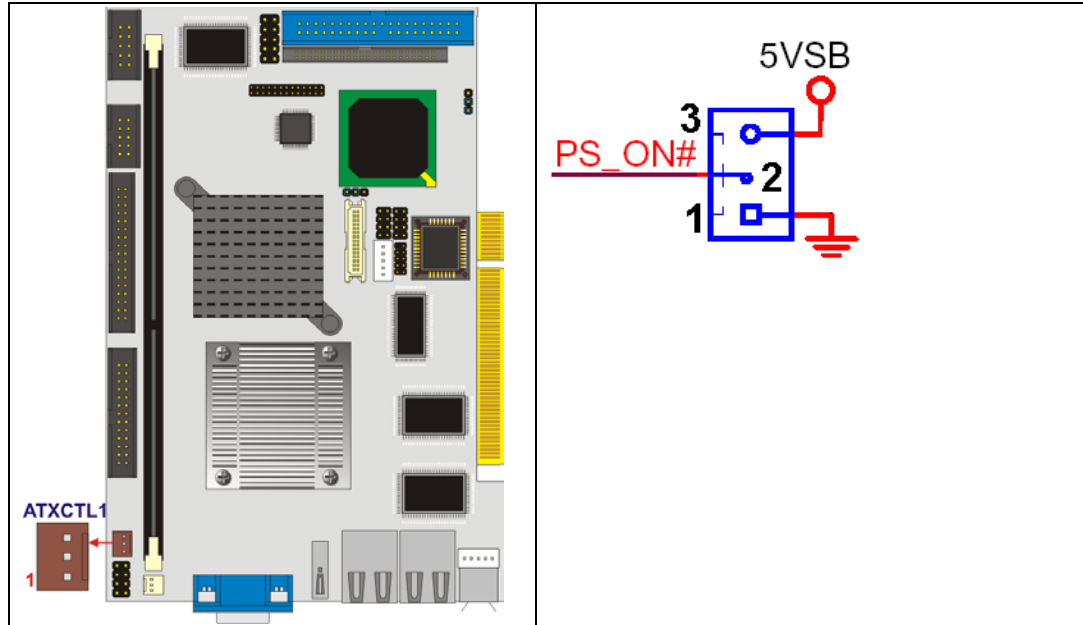

Figure 3-4: Backplane to Mainboard Connector Location
- CN Location:** See Figure 3-4